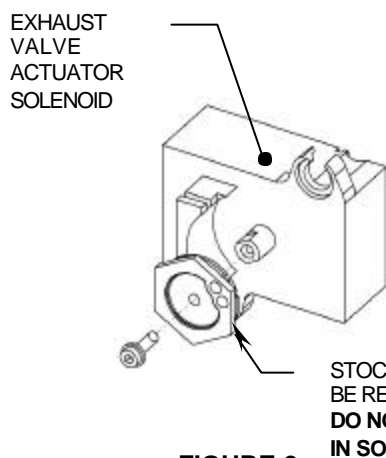
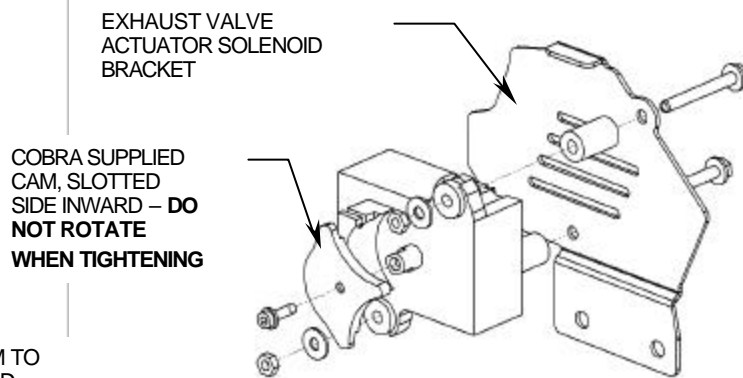

FIGURE 2
FIGURE 3
7. Now prepare the exhaust valve actuator solenoid for reuse. **SECURELY HOLD THE CAM TO PREVENT IT FROM ROTATING IN THE SOLENOID. WHILE PREVENTING THE CAM FROM ROTATING,** remove the 10 – 32 flange bolt securing it, see Figure 2. Replace the cam with the Cobra supplied cam, **BE SURE TO PREVENT THE CAM FROM ROTATING WHEN REINSTALLING THE BOLT, OTHERWISE DAMAGE MAY OCCUR TO THE SOLENOID,** see Figure 3. Torque to factory specifications.
8. After installing the cam preassemble the exhaust valve solenoid with the supplied Cobra parts as shown in Figure 3. Insert the two supplied M6 x 50 mm bolts through the supplied exhaust valve actuator bracket, aluminum spacers, solenoid, supplied flat washers, and supplied M6 lock nut. Once the assembly is complete and bolts are tightened set aside for later installation.